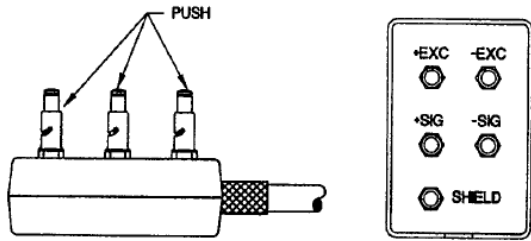

Figure 2-4. Transducer Lead Connection.
- (3) Connect the tinned transducer leads to the quick connect cable by pressing the spring loaded but-tons (Figure 2-4) and inserting leads. Consult transducer manual for correct lead designations.